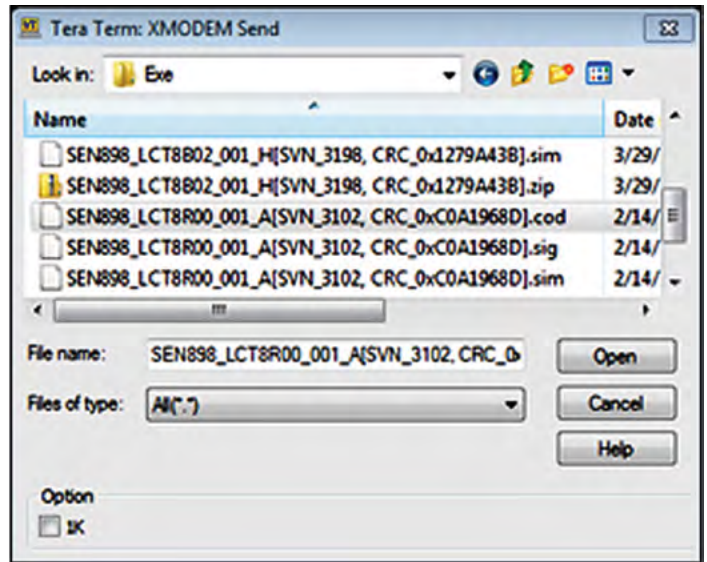
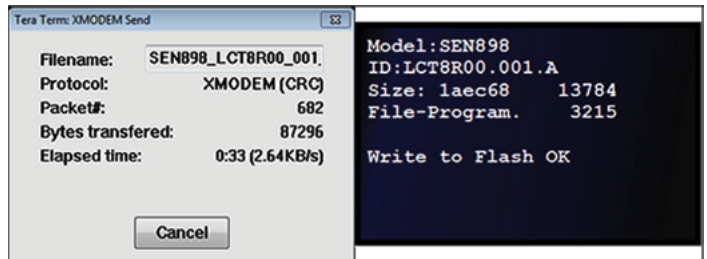

Figure 84: XMODEM Send file selector
Figure 85: XMODEM Send status (left) and meter display file receive status (right)
3. When the *Tera Term: XMODEM send* file selector window opens (see *Figure 13* below), locate and select the **.cod** extension file from your PC. After selecting the **.cod** extension file, click **open** and the status window shown on the left in *Figure 84* below opens. At this time, the meter display shows the *file receive status* (see the right of *Figure 85* on page 82 below).